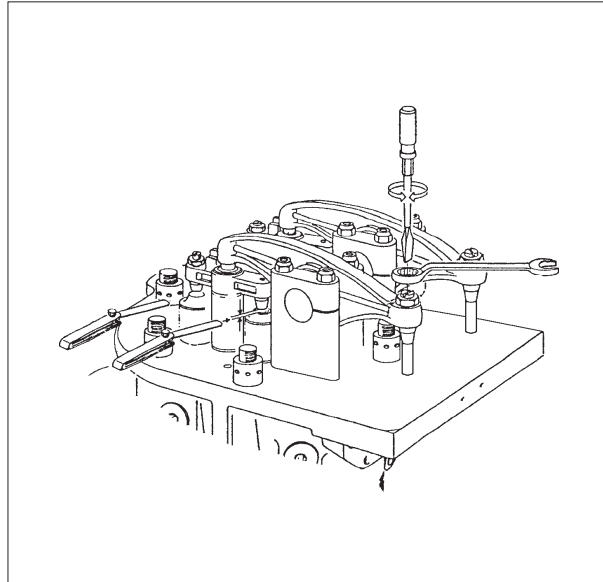

Fig 2.
- 6) Place another feeler gauge, at the same size 0,50 mm above the other valve spindle, *see fig 2.*
- 7) Adjust the clearance between valve bridge and valve spindle by means of the adjustment screw on the valve bridge, and tighten the lock nut, *see fig 2.*